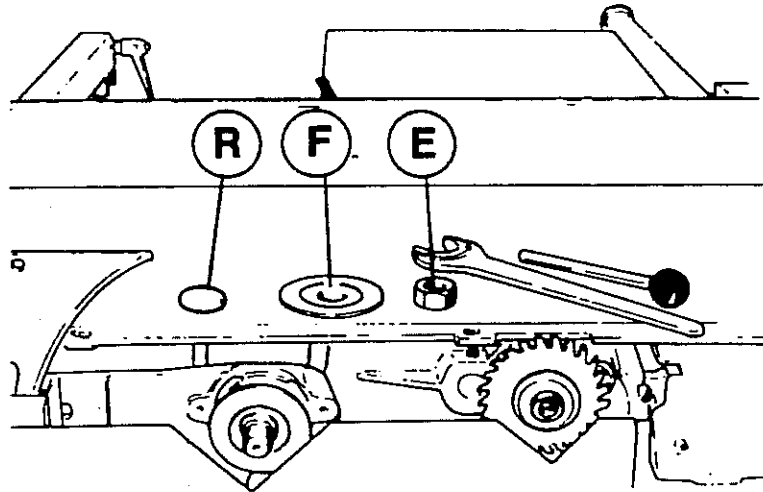

Fig.14
Unscrew nut (E fig.14), take off washer (R) and one flange (F). Before fitting the saw blade check that both flanges (F) are clean.